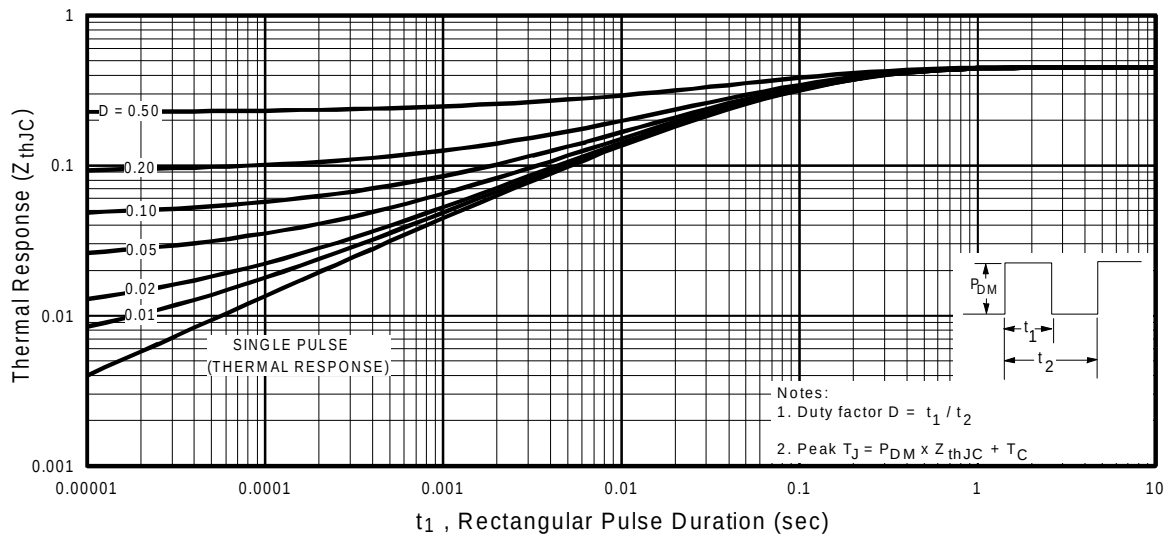

Fig 11. Maximum Effective Transient Thermal Impedance, Junction-to-Case
① Repetitive rating; pulse width limited by max. junction temperature. (See fig. 11)
③ $I_{SD} \leq 16A, di/dt \leq 140A/\mu s, V_{DD} \leq V_{(BR)DSS}, T_J \leq 150^\circ\text{C}$
② $V_{DD} = 25V$, starting $T_J = 25^\circ\text{C}$, $L = 7.2mH$